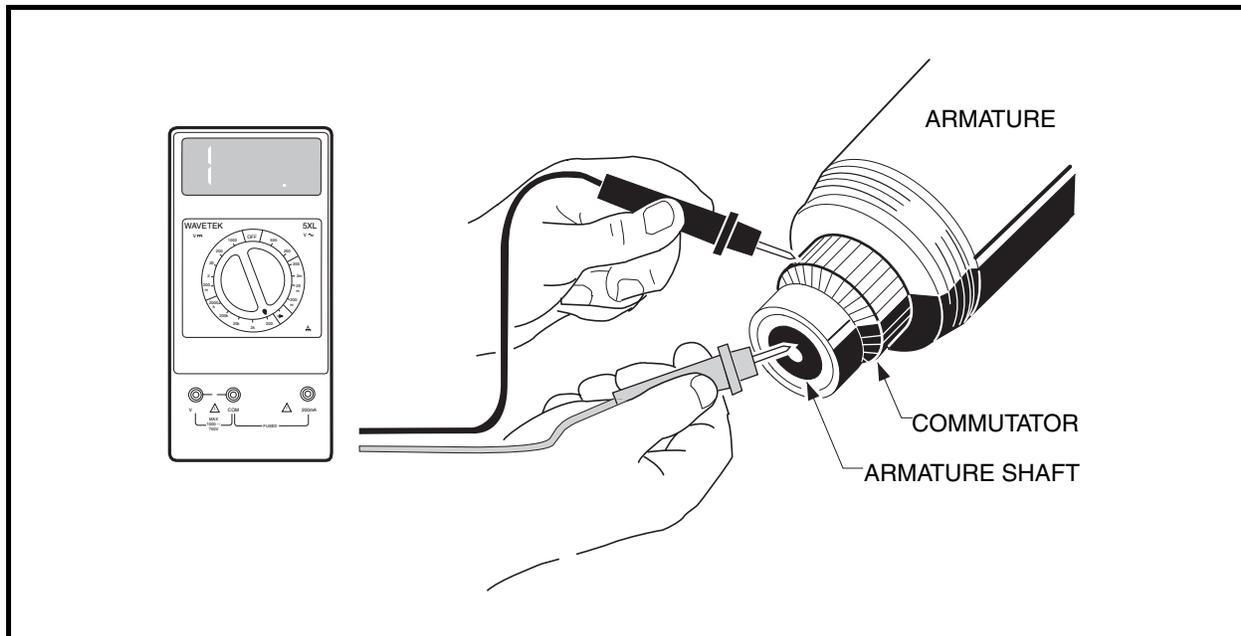

Figure 12-12 Armature Ground Test
1. Using a multimeter set on 200 (ohms), place the positive (+) probe on the commutator bars and the negative (-) probe on the armature core. The reading should be no continuity. If the reading is incorrect, replace the armature and the two bearings (**Figure 12-12, Page 12-8**).